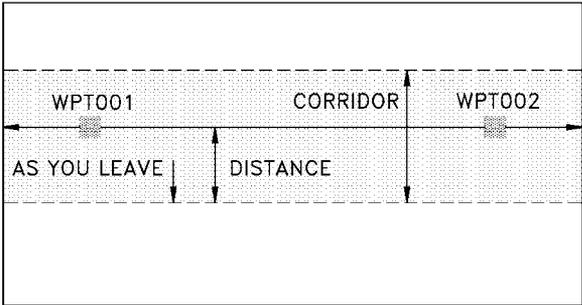

Figure 4-2 Corridor Description.
4.3.6.6 Figure 4-2 shows a representation of a corridor. After entering a distance to define the borders of the corridor and enabling the corridor alert, the PLGR alerts the user of departure from the corridor (shown in gray).